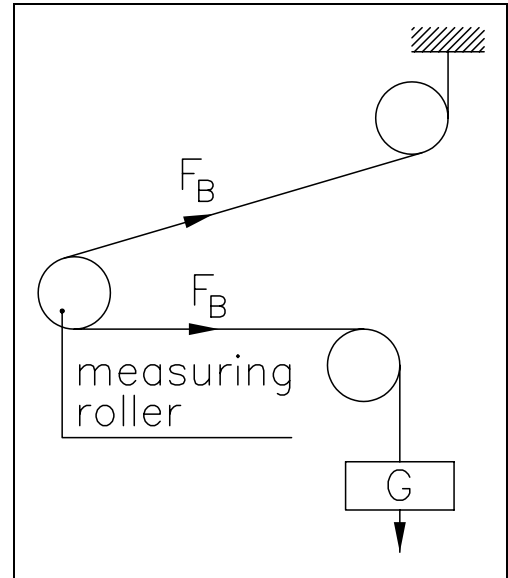

fig. 10: Calibrating the measuring amplifier
- Load material or rope with a defined weight (fig. 10).